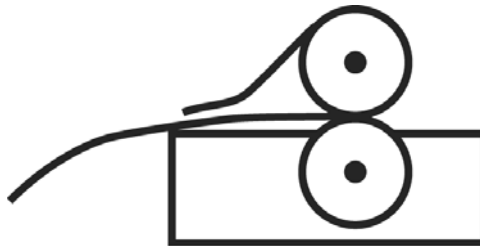

Fig.2
2. Turn the left/right adjusting buttons in counter-clockwise to lift up the rubber roller. Insert one end of the film into the rollers about 50cm. Then warp one end of the film around the upper roller, straighten the film with rollers and align its two sides (to ensure the film is straight). Then Turn the adjusting buttons in clockwise to their idle position, put down the upper roller to press the film. (Fig.2)